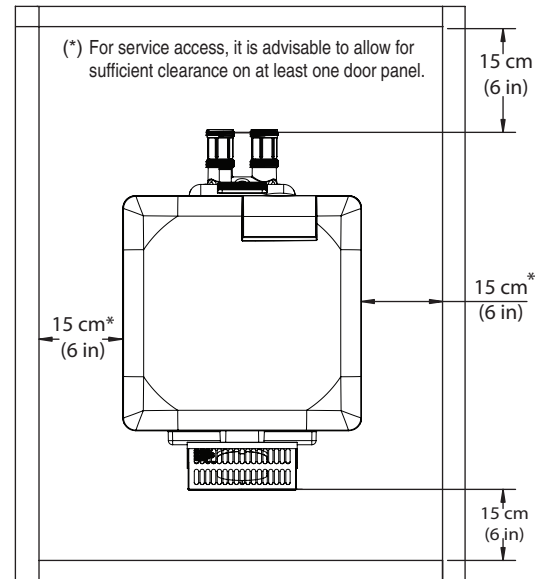

Figure 10.
**Note (†)** For service access it is advisable to allow for sufficient clearance on at least one door panel. The heater is design certified by CSA International for installation on combustible flooring. For installation on carpeting, the heater must be mounted on a metal or wood panel that extends at least three inches (10cm) beyond the base of the heater. If the heater is installed in a closet or alcove, the entire floor shall be covered by the panel. On an outdoor shelter installation, the exhaust discharges into a vent pipe. Orient the heater so that the vent pipe does not interfere with adjustment of the operating controls. The control panel located on the top panel can be rotated to any of the three sides of the heater for easy access. However, the control panel must not be located on the side where the vent is located (see Figure 10).